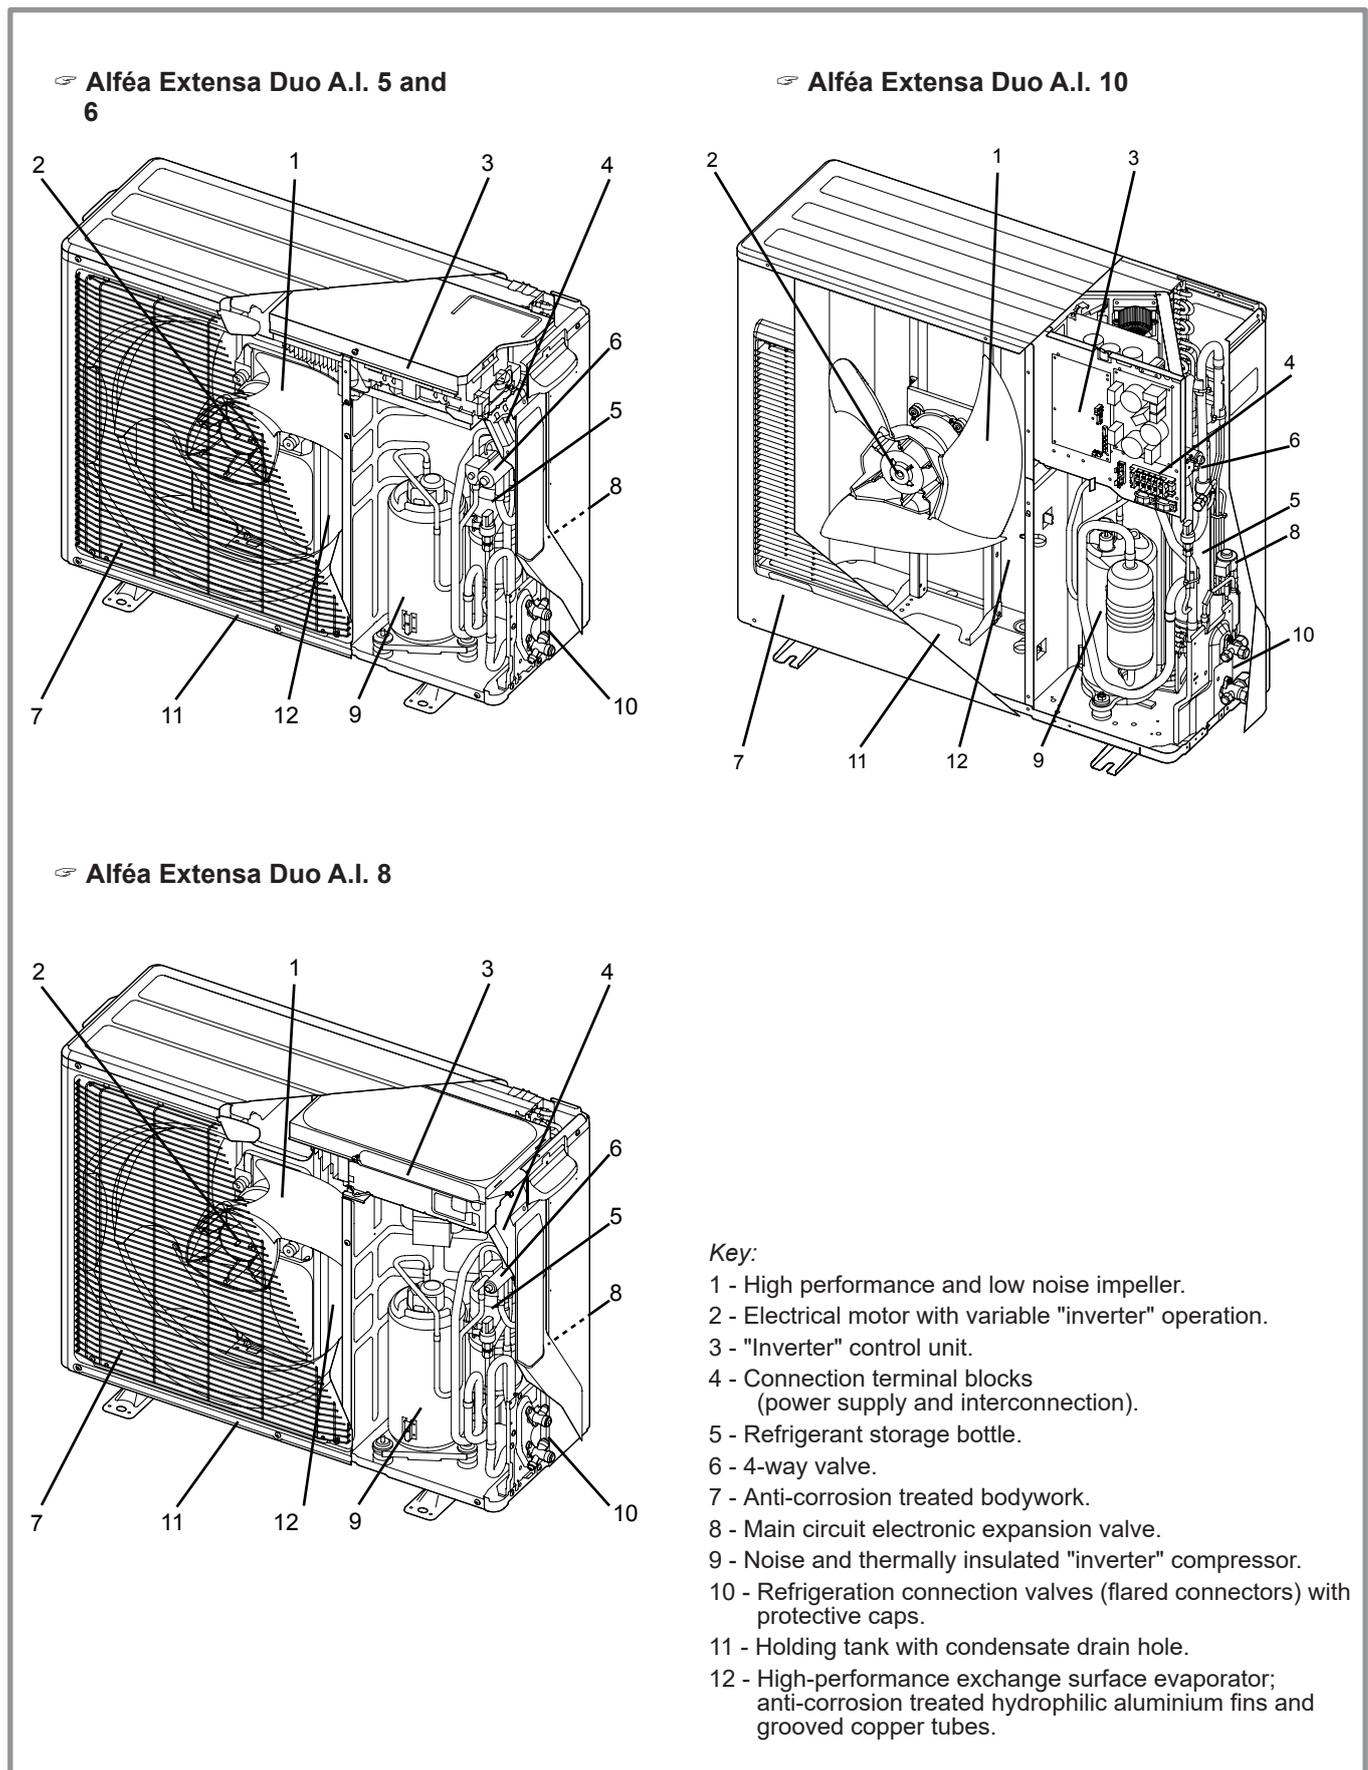

figure 8 - Outdoor unit components
- In the evaporator (ref. **12**, figure 8, page 12):
- In the compressor (ref. **9**, figure 8, page 12):
- In the expansion valve (ref. **8**, figure 8, page 12):